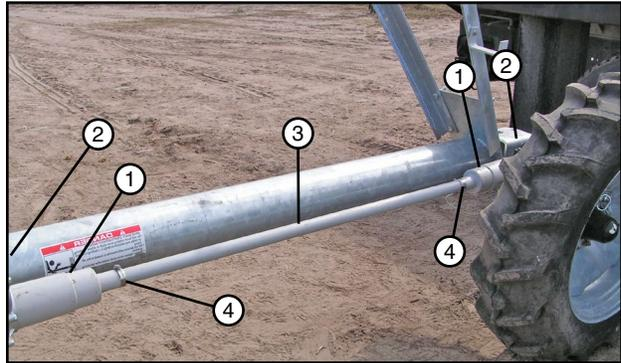

Figure 32-1 Operation Position
- Slide the U-joint shield over the U-joint and position approximately 1/4 in (6.3 mm) away from touching the gearbox. Secure the U-joint shield to the drive shaft shield with a clamp. See figure 32-1.